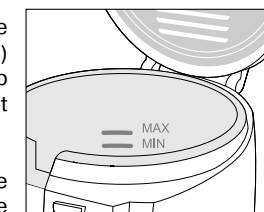

FIG. 7
1. Pour between 2-2.5 litres of oil into the fryer. The level of the oil must be between the two marks marked. MAX&MIN on the wall of the vessel (FIG.7)